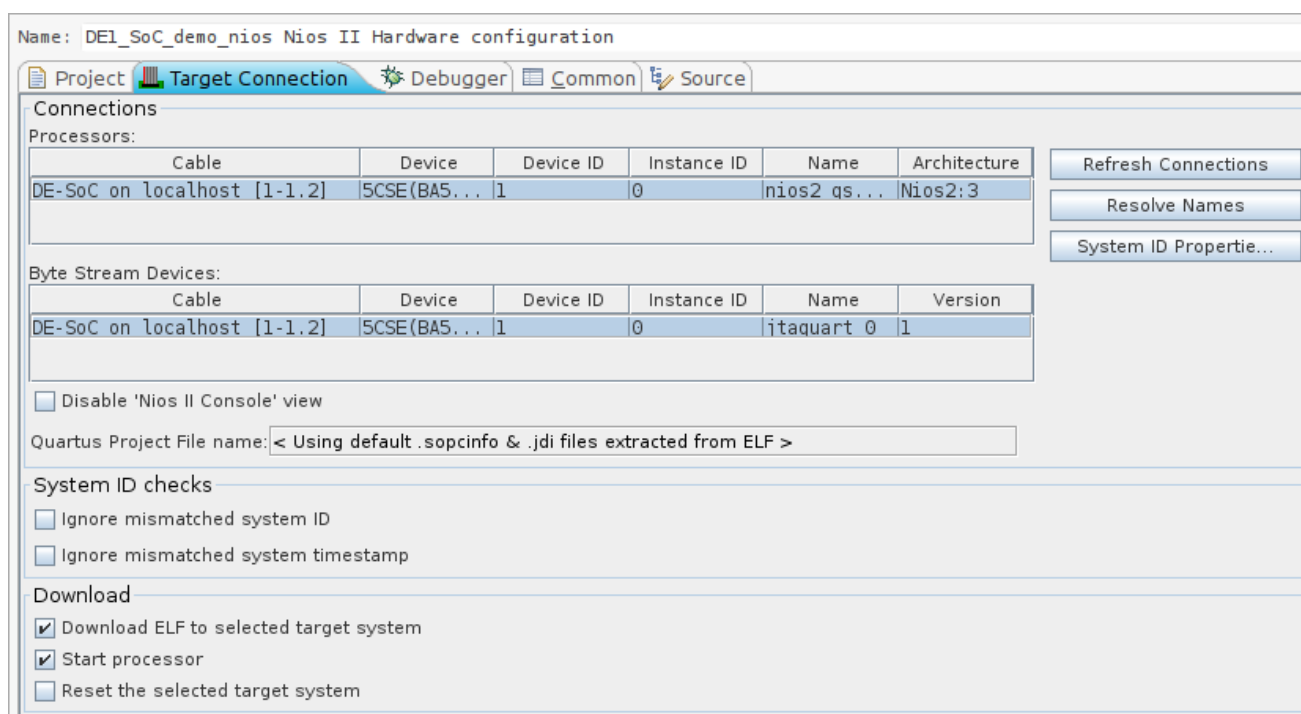

Figure 8-23. Nios II Target Connection Dialog
9. In some cases, it is possible that the program will not immediately run on the Nios II processor, and you will be prompted with a “Target Connection” dialog, as shown in Figure 8-23. If your Nios II CPU doesn’t appear in the list of available processors, then
- a. Click on the “Refresh Connections” button on the right of Figure 8-23.